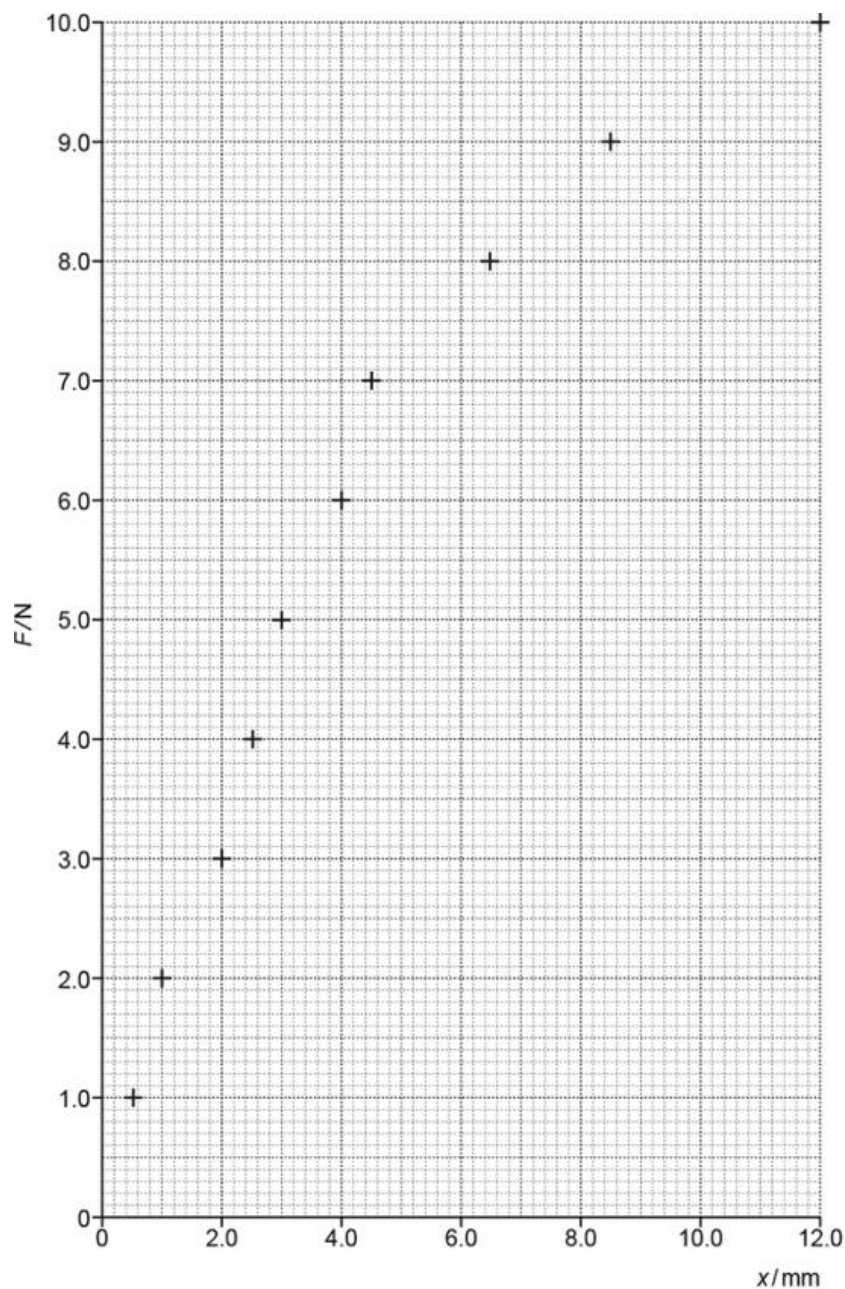

Fig. 4.2
Fig. 4.2 shows the extension x of a metal wire at different applied loads F . x is measured to ± 0.5 mm and F is measured to ± 0.2 N.
i. On Fig. 4.2